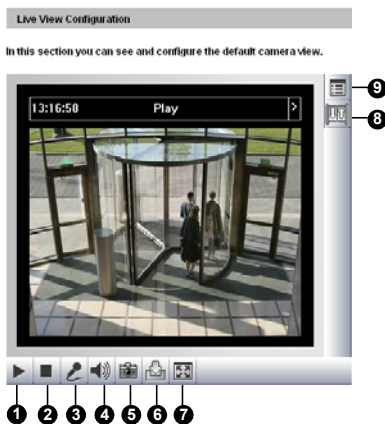

Figure 4-3
1. Click the **Snapshot** button (No. 5, Figure 4-3). The Save As dialog box appears.
1. Click the **File Save** button (No. 6, Figure 4-3). The Save As dialog box appears.
4. To stop recording, click the **Stop** button (No. 2, Figure 4-3).
- Click the **Full Screen** button (No. 7, Figure 4-3). Right-click the full screen to have the options of **PIP** and **PAP**.
To configure this function, click the **Show System Menu** button (No. 9, Figure 4-3), and select **Alarm Notify**. This dialog box appears.
You can enable the microphone and speaker for two-way audio communication and adjust the audio volume. To change audio configuration, click the **Show System Menu** button (No. 9, Figure 4-3), and select **Video and Audio Configuration**.
You can view the connection status of the central monitoring stations and upgrade firmware over the Internet. Click the **Show System Menu** button (No. 9, Figure 4-3), and select **Remote Config**. The Remote Config dialog box will appear.
To display the camera name on the image, click the **Show System Menu** button (No. 9, Figure 4-3), and select **Show Camera Name**.
To enhance the image quality of live video, click the **Show System Menu** button (No. 9, Figure 4-3), and select **Image Enhance**. This dialog box appears.